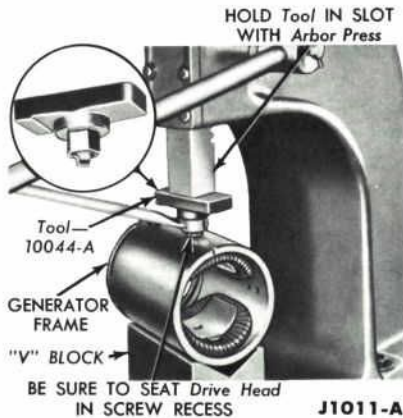

FIG. 20—Pole Shoe Screw Removal
7. Remove the field and ground terminal screws from the frame, and unscrew the field pole shoes as shown in Fig. 20.
2. Tighten the field pole shoe screws (Fig. 20). **As the screws are tightened, strike the frame several sharp blows with a soft faced hammer to seat and align the pole shoes. Stake the screws.**